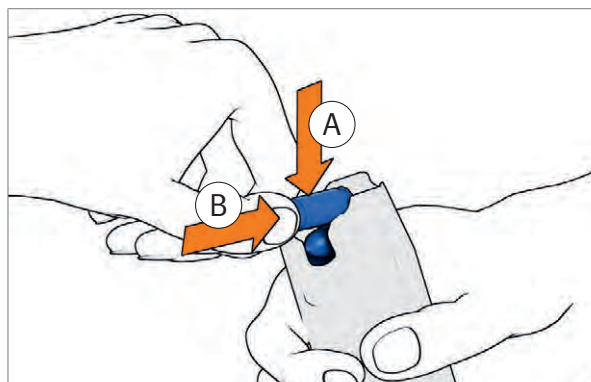

Fig. 40: Fill the magazine
2. Push cartridge under the magazine lips (Fig. 40).
3. Push cartridge to the rear as far as it will go (Fig. 40).